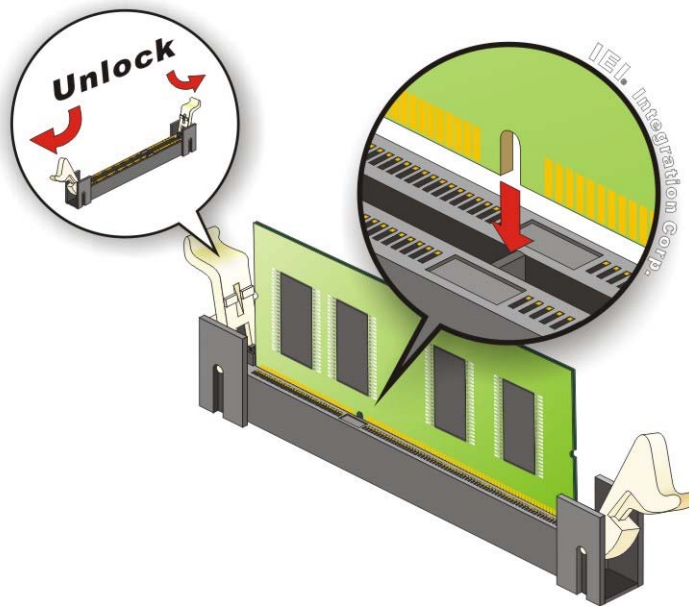

Figure 4-6: SO-DIMM Installation
To install an SO-DIMM, please follow the steps below and refer to **Figure 4-6**.
- Step 1:** Open the SO-DIMM socket handles. Open the two handles outwards as far as they can. See **Figure 4-6**.
- Step 2: Align the SO-DIMM with the socket.** Align the SO-DIMM so the notch on the memory lines up with the notch on the memory socket. See **Figure 4-6**.
- Step 3: Insert the SO-DIMM.** Once aligned, press down until the SO-DIMM is properly seated. Clip the two handles into place. See **Figure 4-6**.